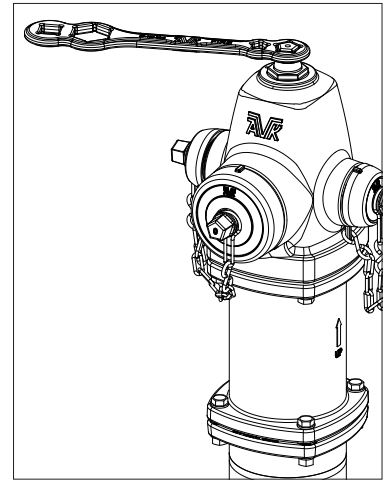

Fig. 7C
4. Remove the operating nut (F10) using the AVK operating wrench. Turn counterclockwise for "Open Left Hydrants", and clockwise for "Open Right Hydrants". Remove the anti friction washers (F8), and set aside with the operating nut (see fig. 7C).